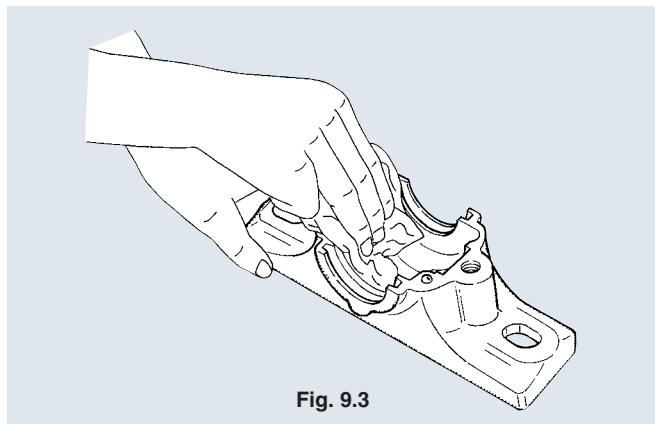

Fig. 9.3
- (3) Remove dent marks (even though very small) from the mating faces with an oil stone or fine emery paper. Check that the contact face to the seal has specified surface roughness (0.8a). Wipe dust away from the shaft with clean factory cloth.
- (4) Remove possible dust and metal chips from the inside of plummer block. (**Fig. 9.3**)